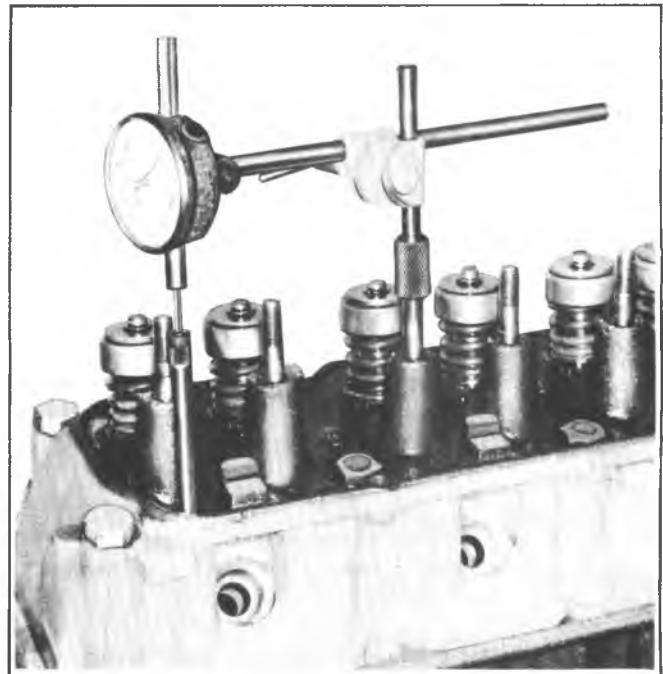

Fig. 6A1-23-Measuring Camshaft Lobe Lift
2. Position indicator with ball socket adapter (Tool J-8520) on push rod (fig. 6A1-23).